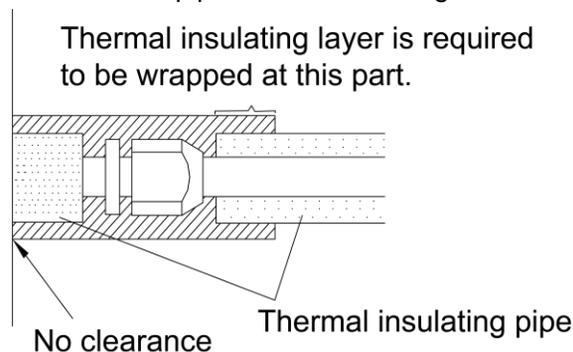

Fig.29
- 3) Joints at indoor and outdoor units should be wrapped with insulating material and leave no clearance between pipe and wall. See Fig.29.